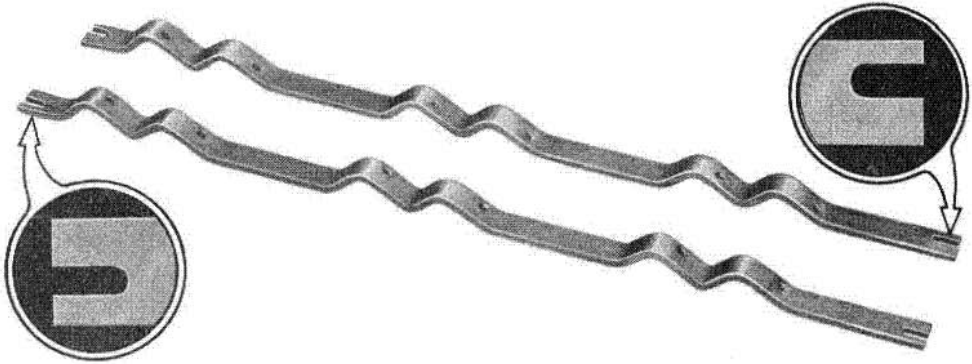

**Fig. 50—813538733 (P-35C873) Mounting Bar**
**10.07** The 813538733 (P-35C873) mounting bar (Fig. 50) has two bars needed to mount one or two 811331131 (P-13C113) frame assemblies [31A (MD) apparatus mounting less welded hinge and fastener details] on a 23-inch wide relay rack. It is furnished with four 803534468 (P-353446) RHM screws.